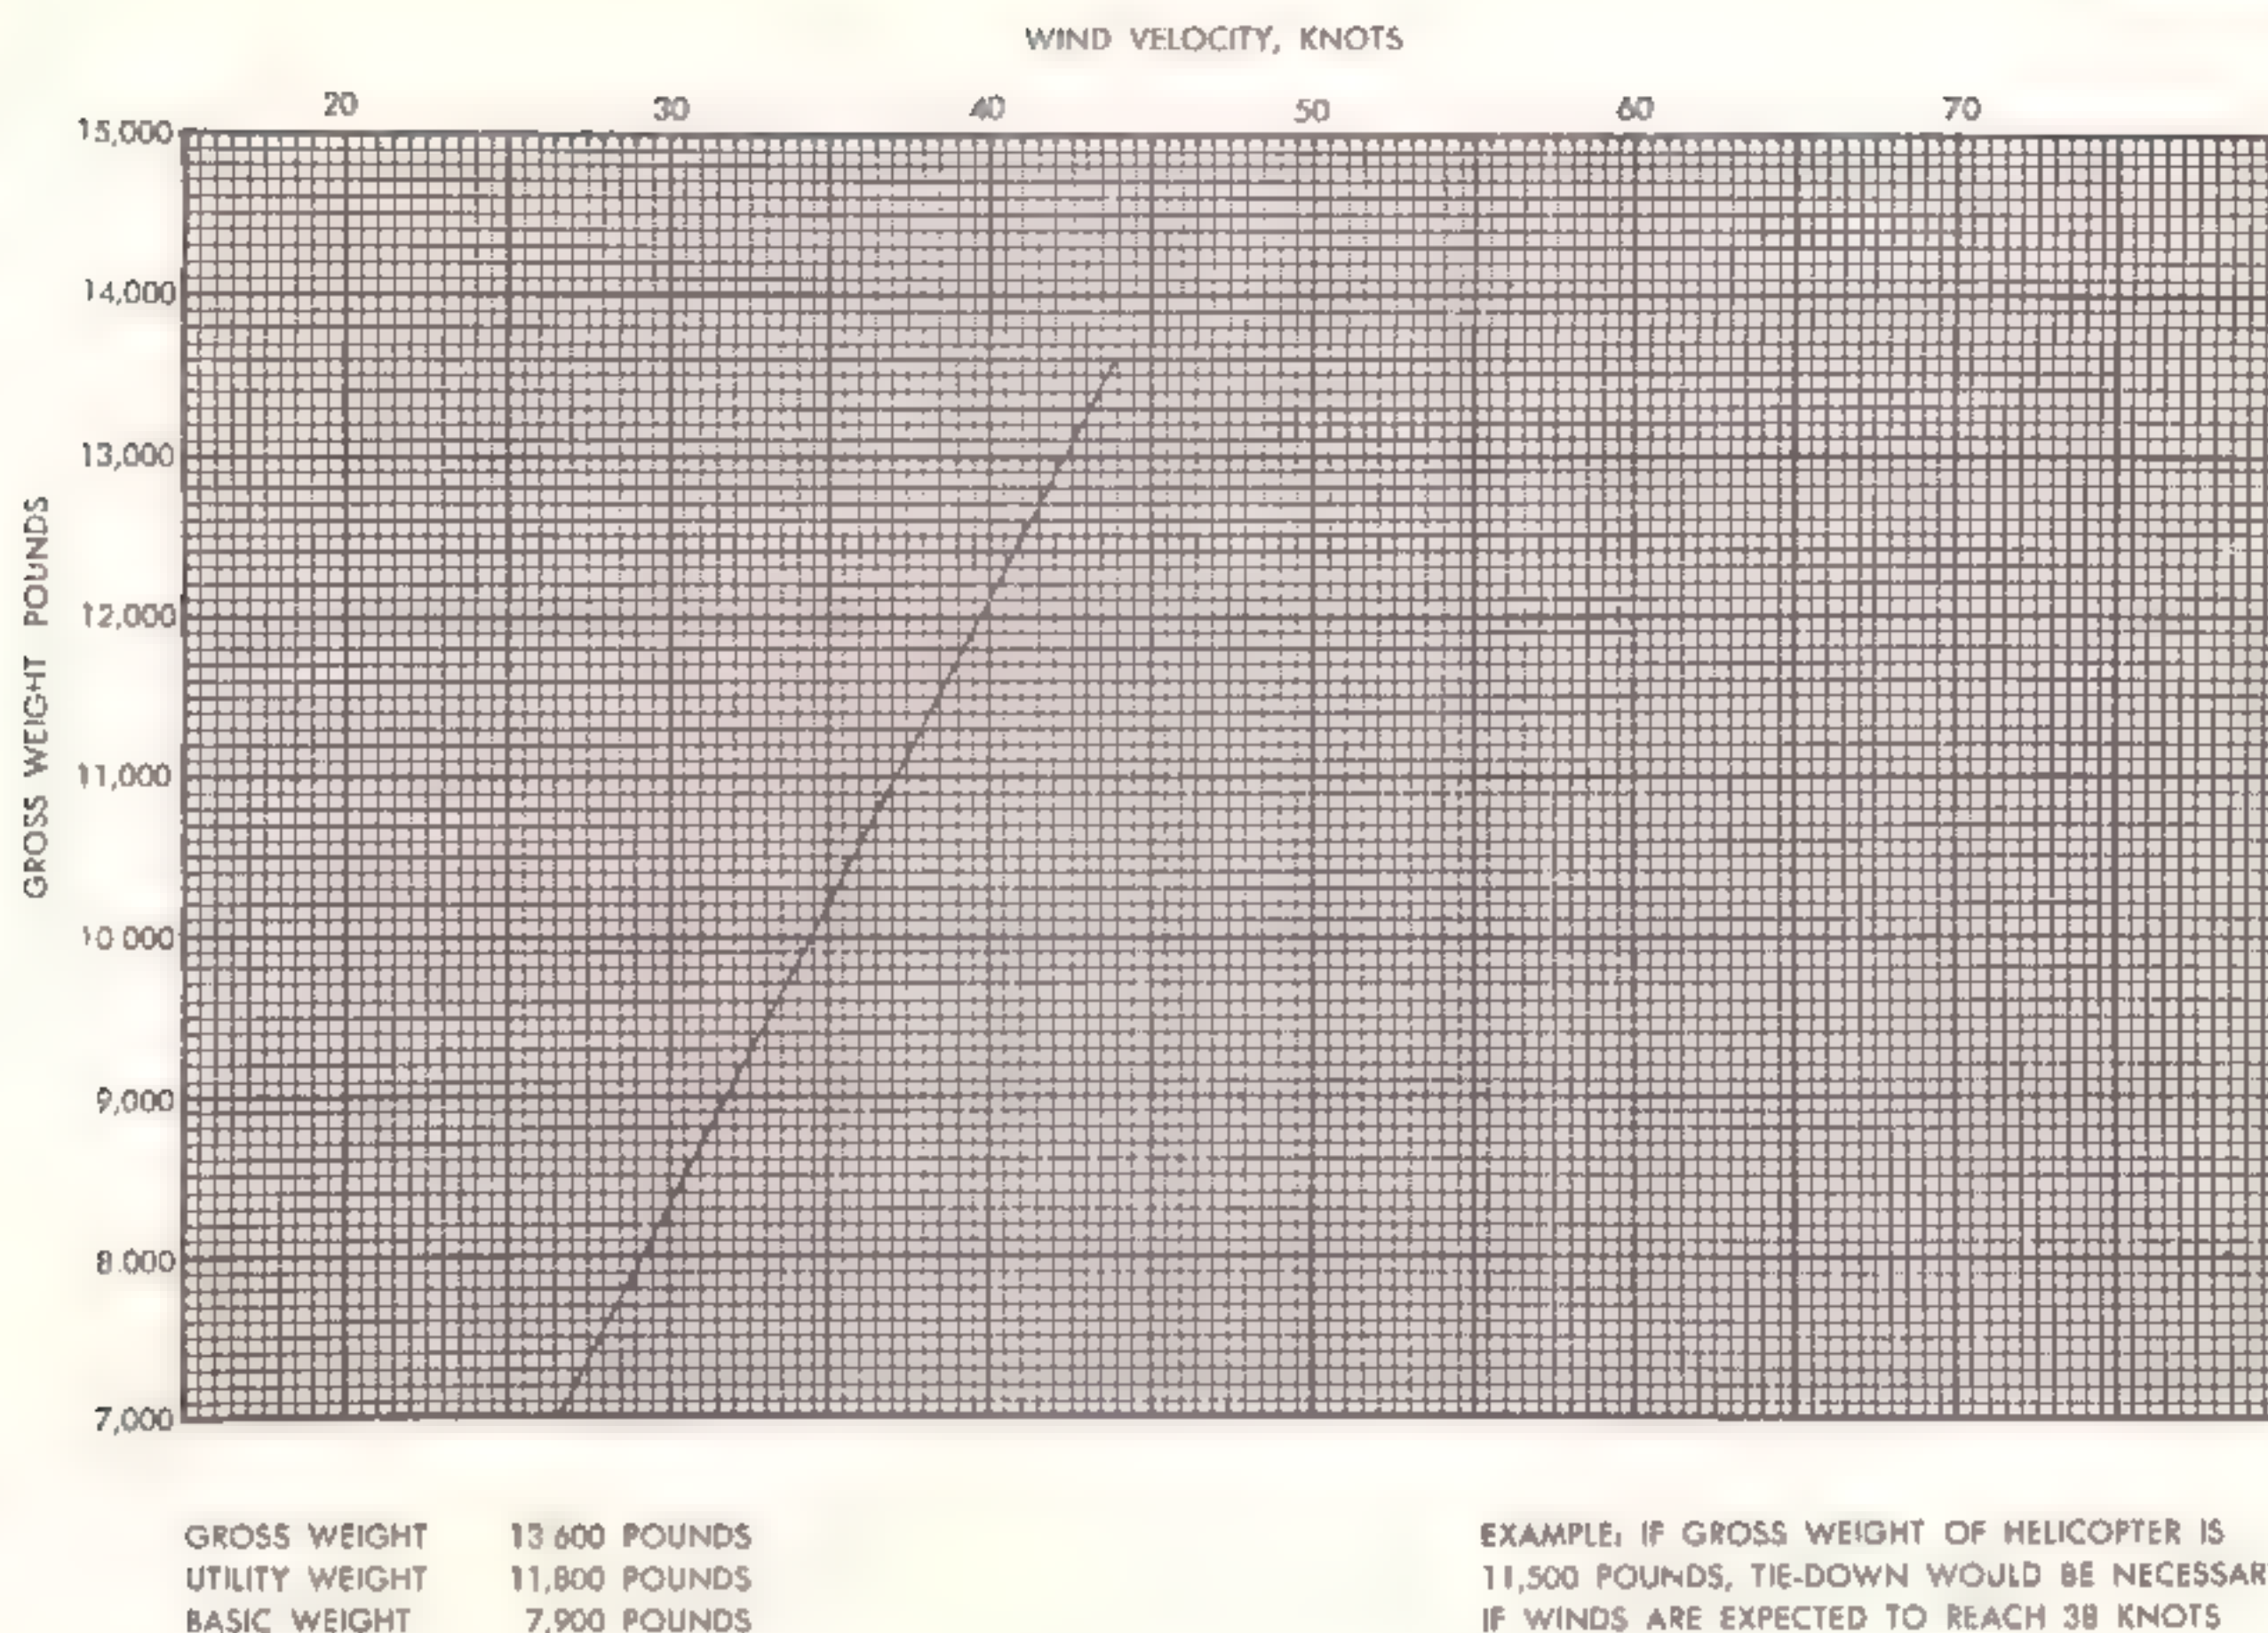

Figure 1-16. Mooring conditions chart
1-51. Parking. Parking is defined as a condition under which the helicopter will be secured on the ground. When parking the helicopter, the direction of heading is normally determined by ease of maintenance and servicing and not by prevailing wind direction. Maximum velocity of surface winds which can be withstood while parked in this manner depends upon the gross weight of the helicopter. (See figure 1-16.)
in mooring helicopter for high velocity winds. For ice or snow, use metal collapsible ice-grip chocks. These chocks vary with tire size. Another important factor is weight of helicopter. Figure 1-16 gives weight and relative wind velocities that make tiedowns necessary. To make use of these figures, it is advisable to know approximate weight of helicopter in its various configurations. During emergencies, knowledge of this information is especially useful for selecting helicopters that need to be tied down first. Helicopters tied down in this manner can withstand winds up to 60 knots. Above 60 knots, helicopters may sustain minor damage.
(3) When high winds are expected to reach or exceed velocities as shown in figure 1-16, moor helicopter as outlined in steps (4) through (12) below.
(4) Head helicopter in direction from which highest forecast wind or gusts will come.
(5) Locate helicopter slightly more than rotor span distance from other helicopters.
(6) Deflate shock struts and fill all fuel tanks if time permits.
(7) Place wheel chocks fore and aft of main landing gear wheels and secure by nailing wood cleats from chock to chock on each side of each wheel. Use rope to secure chocks when wood cleats are not available or when using ice-grip chocks.